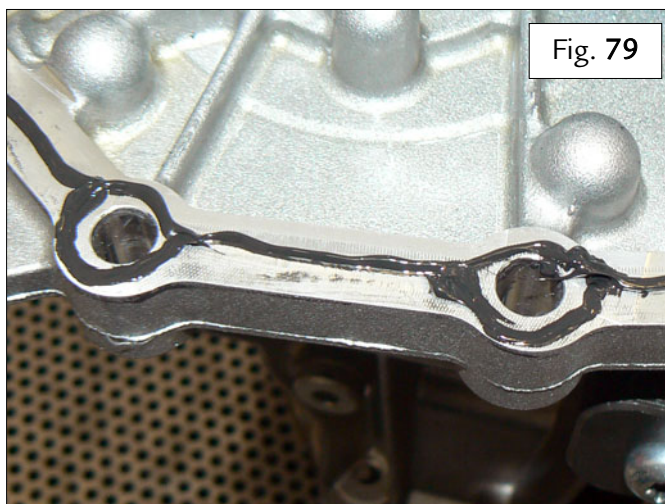

Fig. 79
- Apply a continuous bead of **Loctite 5970** around the holes in the outer mating surface of the interface plate as shown in the photo aside – Fig. 79.